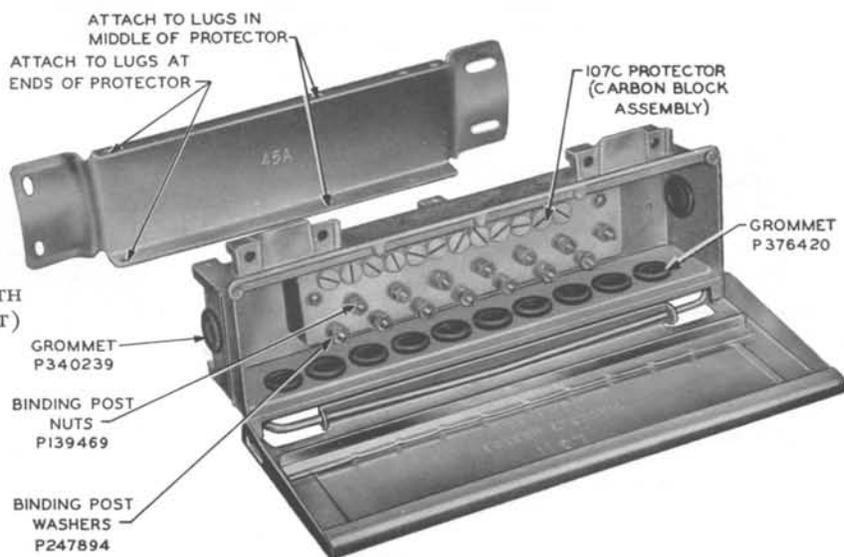

FIG. 6—116A PROTECTOR (WITH 45A MOUNTING BRACKET)
3.04 The 116A protector shown in Fig. 6 has a capacity of six lines and is designed for outdoor use at multiple dwellings. It may be used also where **out-of-block** cable protection is required for three or more lines. A 45A bracket is furnished with the 116A protector and is used to mount the protector.